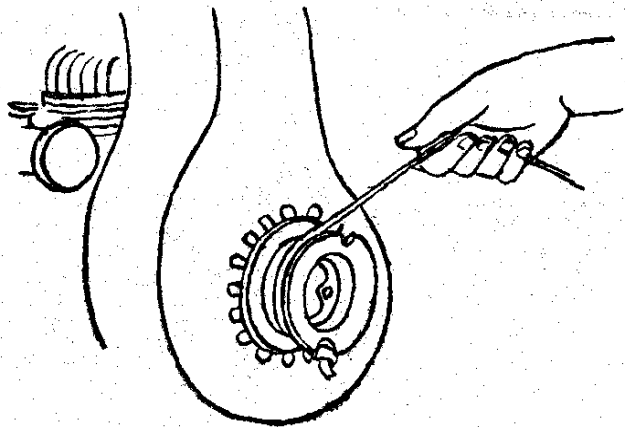

Fig. 4
**Wrap the starting cord round the engine pulley in a clockwise direction. See Fig. 4.**